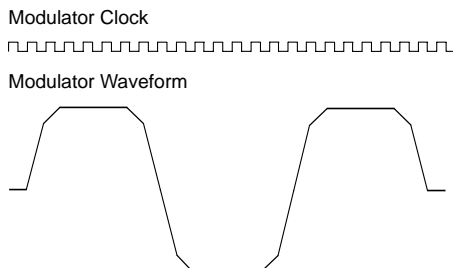
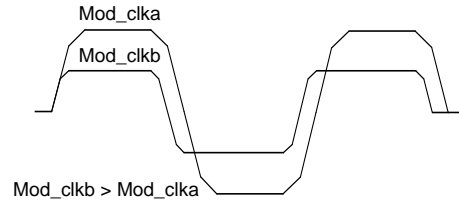

Figure 19. Modulator Waveform and Clock
Figure 20. Two Different Modulator Clock Setting
The modulator waveform is created by charging and discharging a capacitor. A modulator clock controls the timing, as shown in Figure19. For every rise-and fall edge, 4 clock periods are being used. The charging current during these 4 clock periods are not equal, this is to reduce the high frequency components in the waveform, which in turn will narrow the frequency spectrum.
where  $f_{\text{MOD\_CLK}}$  is the modulator clock shown in Figure 19,  $f_{\text{XCO}}$  is the crystal oscillator frequency Refclk\_K is a 6 bit number and Mod\_clkS is a 3 bit number. Mod\_clkS can be set to a value between 0 and 7. The modulator clock frequency should be set according to the bit rate and shaping.
A  $f_{\text{MOD\_CLK}}$  of 8 times the bit rate (as in Figure 20) corresponds to a signal filtered in a Gaussian filter with a Bandwidth Period product (BT) of 1. When BT is increased, the waveform will be less filtered. Minimum BT is 1 ( $f_{\text{MOD\_CLK}}$  is 8 times the bitrate). Figure 20 shows two waveforms with BT=1 and BT=2, i.e. the  $f_{\text{MOD\_CLK}}$  is 8 and 16 times higher than the bit rate. When changing the BT factor, the charge-and discharge times will also be changed, and therefore the frequency deviation, as shown in Figure 19.